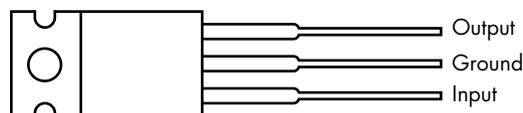

Figure 6-9: Pinout of the LM7805 regulator
3. Connect the input of the regulator to a positive 12V source. (See Figure 6-9 for the pinout of the LM7805.)